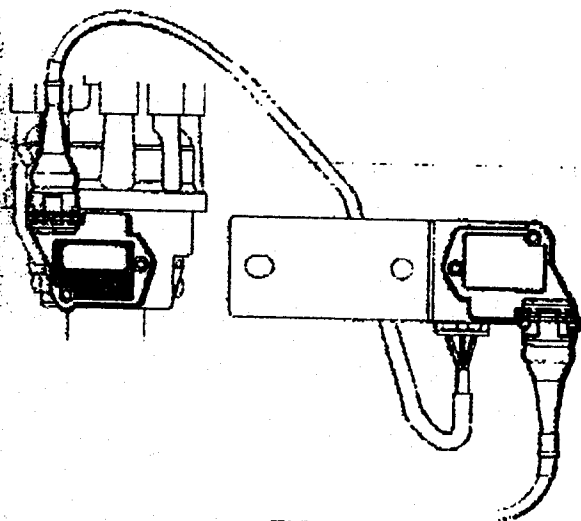

FIG 1
5) With the distributor correctly fitted, place the heatsink bracket assembly on the wing near the ignition coil. Connect the Econoseal connector of the service pick-up lead to the Econoseal connector attached to the heatsink bracket. (See fig 1)
6) Feed the 3-pin mini timer connector end of the lead under the front of the air cleaner housing and connect to the dummy module on the distributor. (See fig 1)